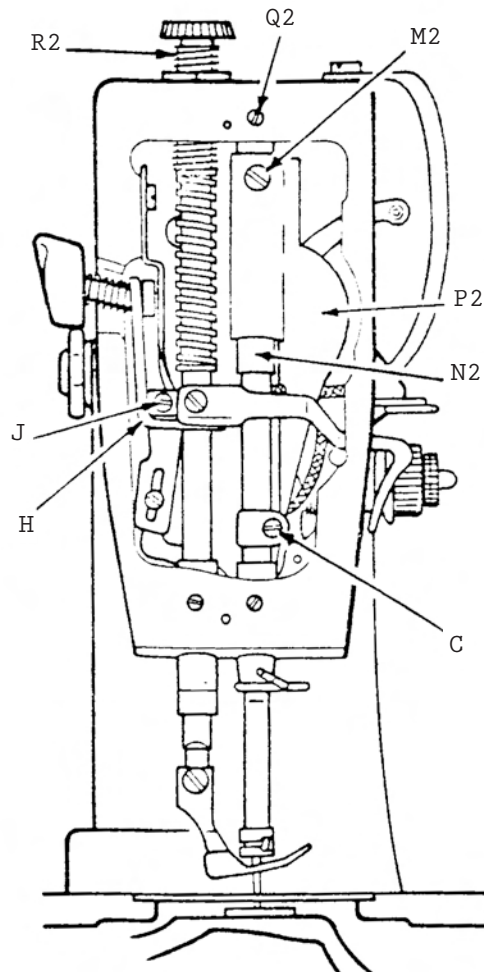
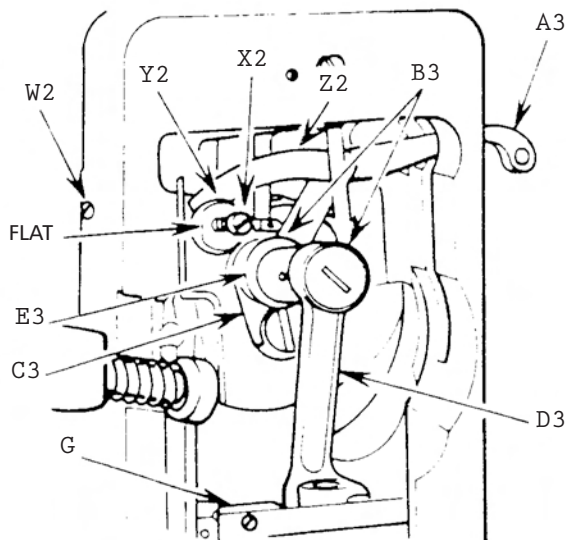

Fig. 20
Fig. 21
TO REMOVE AND REPLACE THE NEEDLE BAR (See Fig. 20)
4. Slide presser bar up through lifting lever link H, Fig. 20 and bushing and out of machine.
1. Slip presser bar down through lifting lever link H, Fig. 20 and lower presser bar bushing. Make sure that the O-ring is placed between lifting lever link H and guide bracket G.
2. Remove needle bar, upper needle bar bushing, presser bar pressure regulating thumb screw R2, Fig. 20 page 13, and guide bracket G, Fig. 21.
5. Loosen small set screw W2, Fig. 21 in the rear of the arm of the machine.
6. Insert a face plate screw X2, Fig. 21 in the tapped hole in center of stud Y2, Fig. 21 and, while holding back the needle thread take-up link inside the head at 22, Fig. 21, pull upon the screw X2 until the stud Y2 is removed. Remove face plate screw from stud.
7. Back the end of the take-up A3, Fig. 21 toward the inside of the machine, turning the machine pulley as required until the take-up is free of the slot provided for it.
1. Make sure that the wearing plate C3 is in place and undamaged on the face of the needle bar crank, as shown in Fig. 21.
2. Place the needle thread take-up link 22 and take-up A3 in the head of the machine so that the stud E3, Fig. 21 in the center of the linkage slips into the hole provided for it in the needle bar crank, as shown in Fig. 21.
17. Replace guide bracket G in head of machine, as shown in Fig. 21.
18. Replace presser bar pressure regulating thumb screw R2, Fig. 20, page 13.